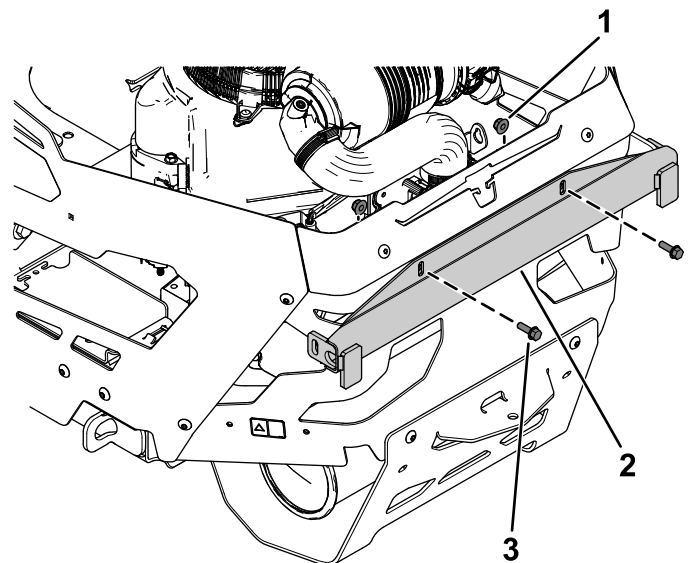

Figure 7
1. Loosely secure the upper support to the rear engine guard using 2 flange-head bolts (5/16 x 1 inch) and 2 flange nuts (5/16 inch) as shown in Figure 7.